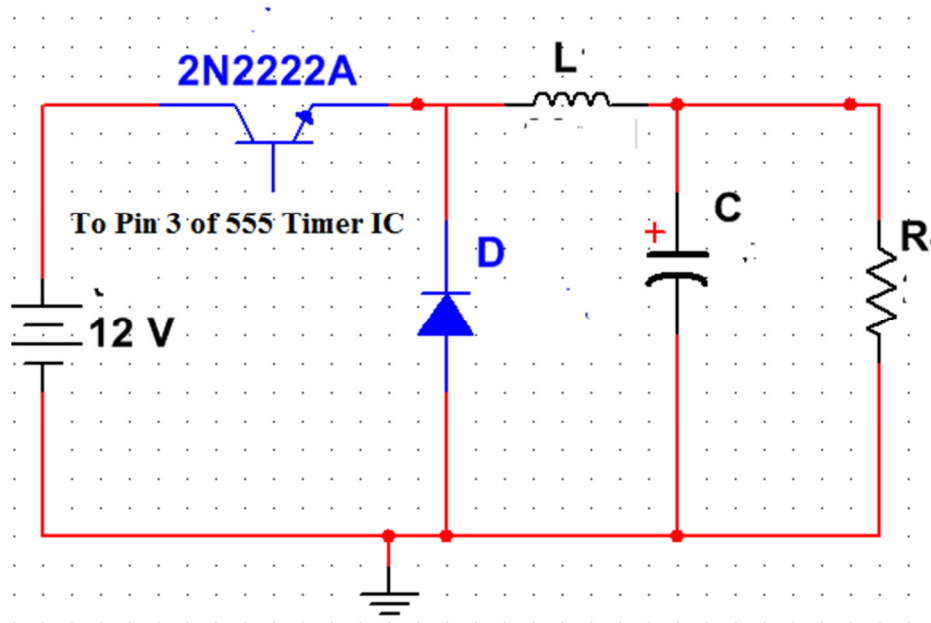

Figure 9.6: Buck Converter
- Implement the buck converter, using the component values that you have just calculated, as shown in the Figure 9.6. Remember base terminal of the BJT will be attached to pin 3 of 555 timer IC.